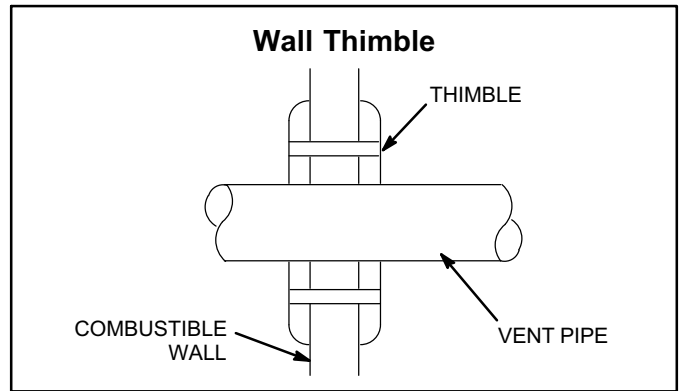

Figure 6
8. The vent may pass through a wall where provisions have been made for a thimble as specified in the Standards of the National Board of Fire Underwriters. See figure 6.